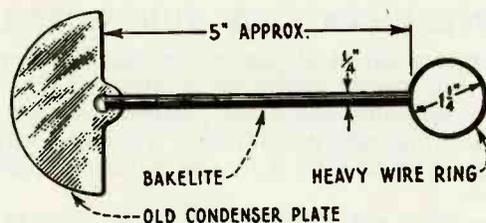

Figure 8—Tool for testing electrical alignment of gang tuning condensers
- (a) Procure or construct a tool as illustrated in Figure 8.